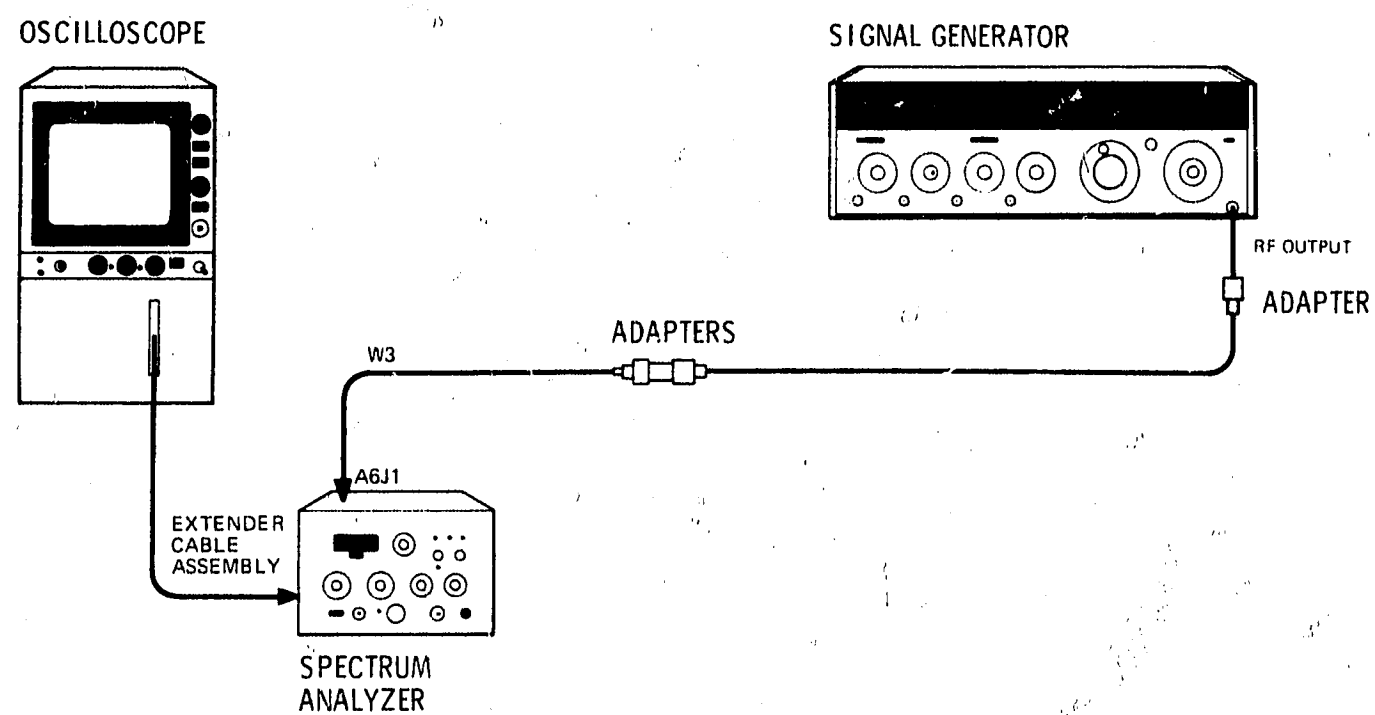

Figure 4-11. Resolution Bandwidth Selectivity Test Setup, 1 kHz to 30 kHz
2. Connect equipment as shown in Figure 4-11.